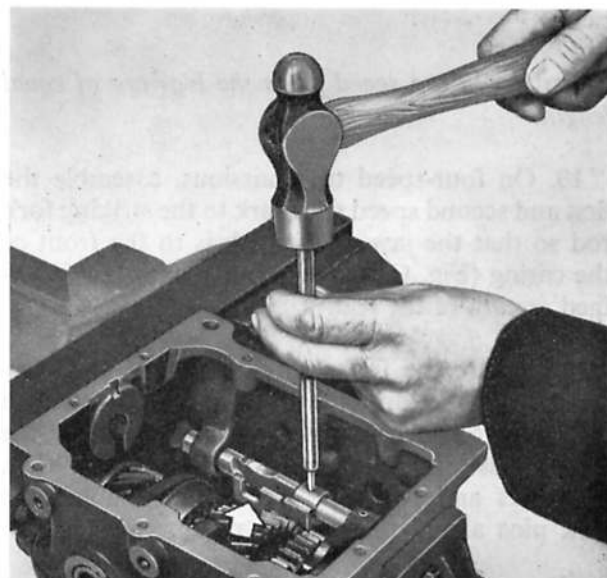

**Fig. G.39. Installing the reverse pinion shaft**
4. Assemble the reverse pinion to the casing with the chamfered end of the teeth towards the front; insert the pinion shaft, lining up the ball with the recess in the casing and drive the shaft home with a brass drift (Fig. G.39).